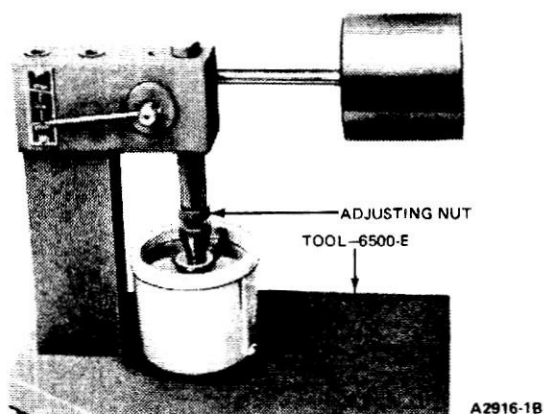

FIG. 9 Adjusting the Ram Length
4. Adjust the length of the ram (Fig. 9) so that the pointer is 1/16 inch below the starting mark when the ram contacts the tappet plunger, to facilitate timing as the pointer passes the Start Timing mark.